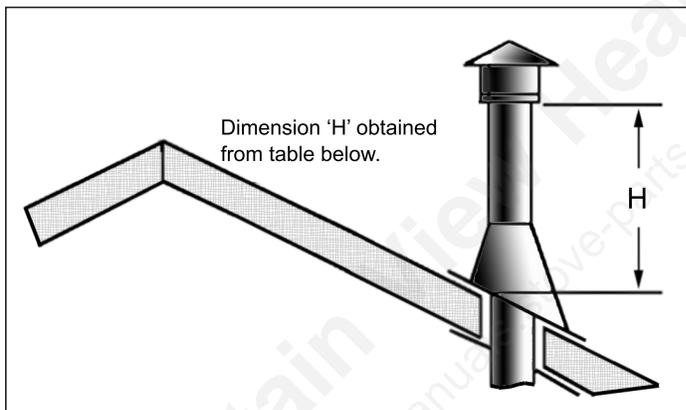

Figure 32: Height of Vertical Termination;
8. Continue to add pipe sections until the height of the vent cap meets the minimum code requirements. Refer to Figure 32 and Table 6. Note that for steep roof pitches, the vent height must be increased. In high wind conditions, nearby trees, adjoining roof lines, steep pitched roofs, and other similar factors can result in poor draft, or down drafting. In these cases, increasing the vent height may solve the problem.
Table 6: Minimum 'H' for Figure 32.